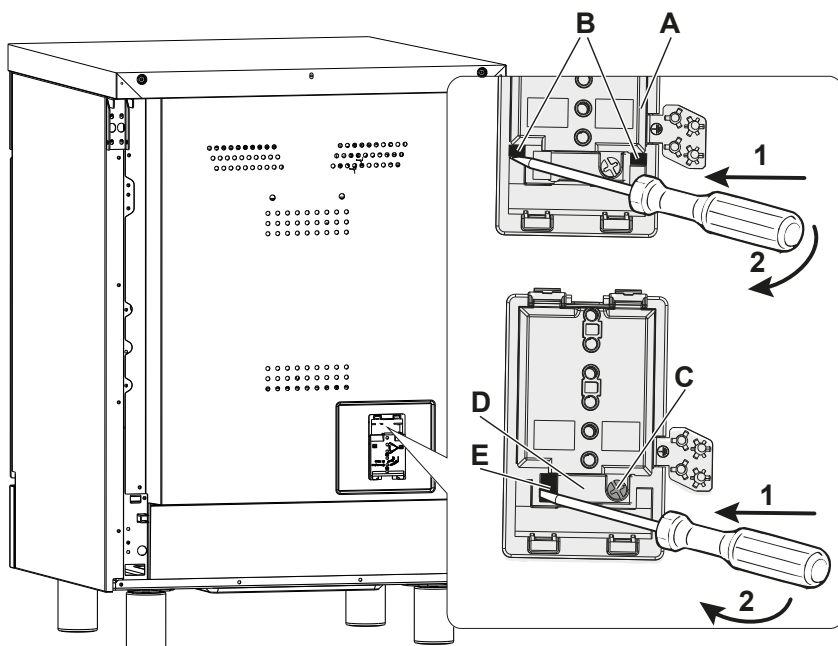

Figure 11
- Unhook the terminal board cover “A” by inserting a screwdriver into the two hooks “B” (fig.11). Open completely the terminal block cover “A”.
- Unscrew the screw “C”, then unhook the cable clamp “D” by inserting a screwdriver into the hook “E”. Remove completely the cable clamp “D” (fig. 11).
- Connect the phase, neutral and earth wires to terminal board “F” according to the diagrams in fig. 12; the U bolts “G” (fig. 11) shall be used as indicated in the diagrams in fig. 12 (they are supplied already fitted to the terminals or inside the terminal board, behind the cover).